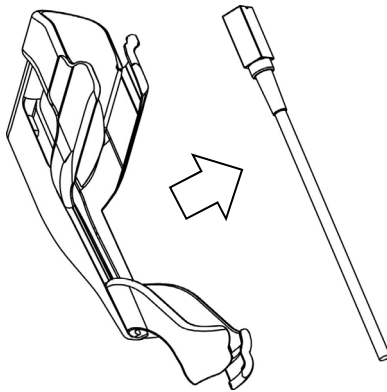

Fig. 17 How to release magnetic sensor from the Magnetic sensor attachment
- 2) Detach the magnetic sensor and the Spacer for EZU-RV3S from the Magnetic sensor attachment as shown Fig. 17.